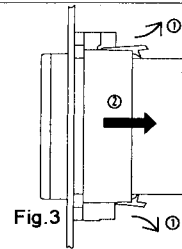

Fig.3
- If the hook in the mounting frame is disengaged from the case, the mounting frame can be removed (Fig.3). If the instrument is fixed to the panel by tightening the screws, first loosen the screw.